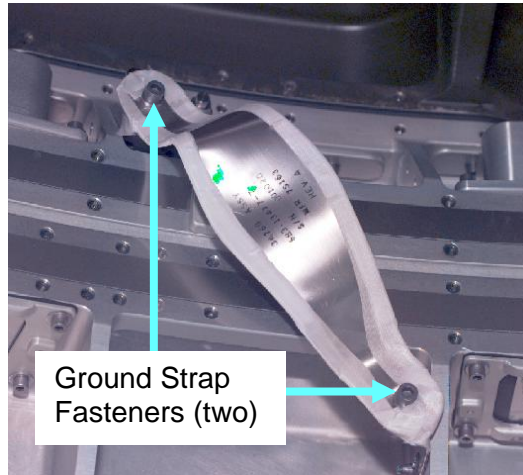

Figure 12.- Ground Strap Installed Across ACBM to PCBM Interface (Photo not of Node 3 Nadir/Cupola Vestibule).
- 7.5 Tighten, torque fasteners (two per Ground Strap) to 90 in-lbs [Ratchet, 3/8" Drive; 3/16" Hex Head; (40-200 in-lbs) Trq Wrench]. Refer to Figure 12.